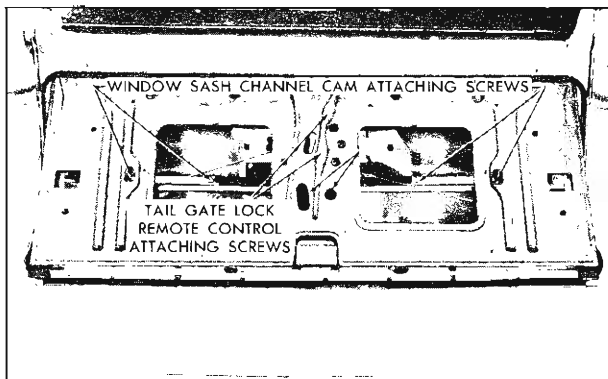

Fig. 5-10 Tail Gate Hardware
2. Detach tail gate inner panel water deflector sufficiently to gain access to window lower sash channel cam attaching bolts (Fig. 5-10). Remove tail gate inner panel access hole covers.
3. Carefully operate window upward until the window lower sash right and left cam attaching bolts are accessible through access holes (Fig. 5-10).
4. Remove window lower sash channel right and left cam attaching bolts (Fig. 5-10) and disengage cams from window lower sash channel. Remove window assembly from tail gate.
**NOTE:** To open the tail gate on styles with electric windows when window assembly is removed, depress tail gate lock remote control locking lever through access hole at location "A", (Fig. 5-10), and at the same time operate the tail gate remote control inside handle.